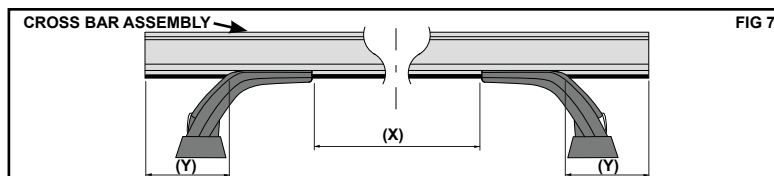

FIG 7
6. Insert Cut Length (A) into the gap between the End Supports ensuring there are no air gaps.
7. After locking down the End Supports in position, proceed to insert the remaining Undercover Strip into the Cross Bar, filling the remaining gap shown by dimension (Y) in Figure 7. Trim the Undercover Strips back to align with the edge of the Cross Bar for all four 'Cut Length (B)' strips.